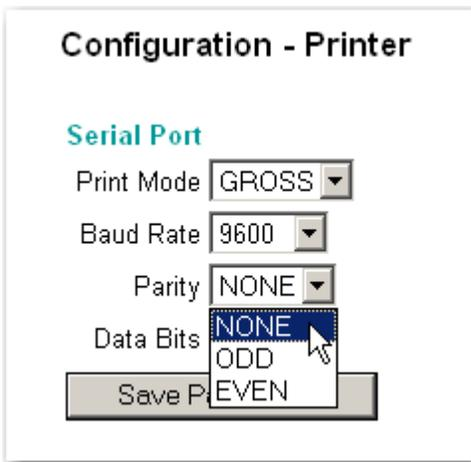

FIG. 205 PRINTER SETUP/SELECTING PARITY
Step 6. Click on the Parity pull down list. (See Fig. 205)